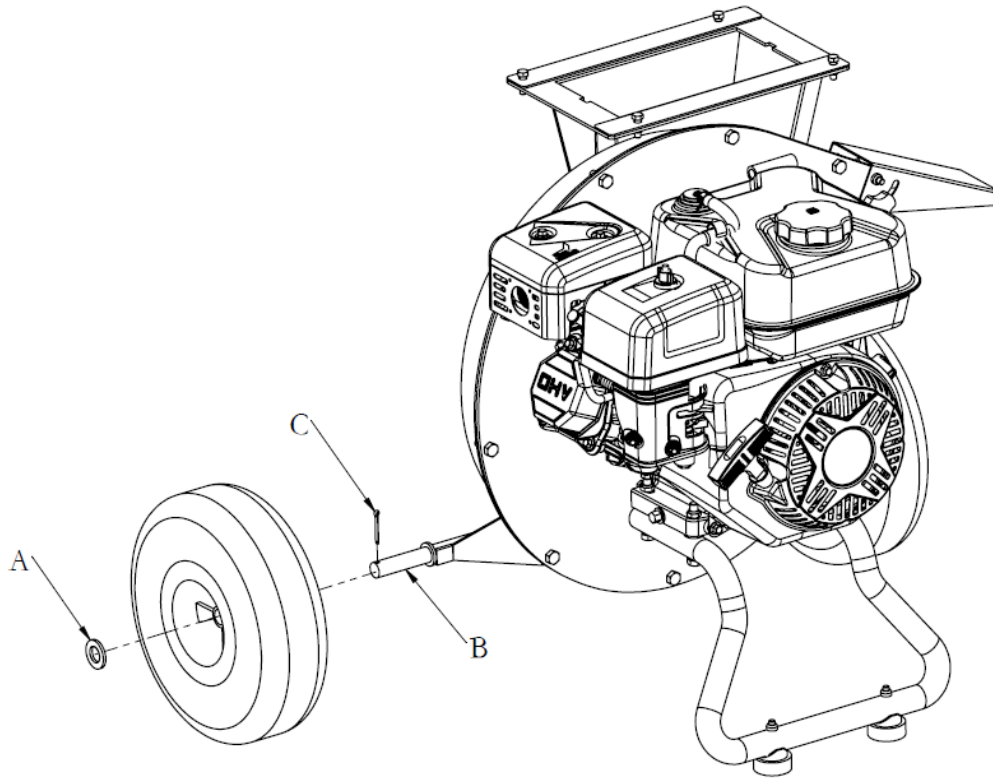

Figure 2
**Install the Wheels (See Figure 2)**
1. Place the wheel onto the axle (B). Make sure the wheel disc flat side faces the machine.
2. Slide the washer (A) onto the axle against the wheel.
3. Insert the cotter pin (C) into the hole to secure the wheel on the axle.